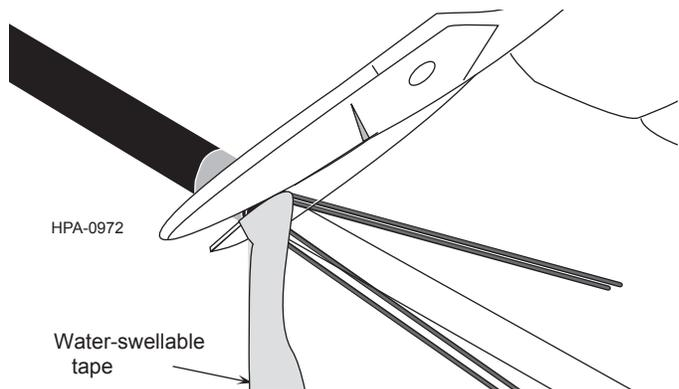

Figure 9
Step 11: Using scissors, cut the water-swappable tape flush with the end of the sheath and the tape wrap (Figure 9).